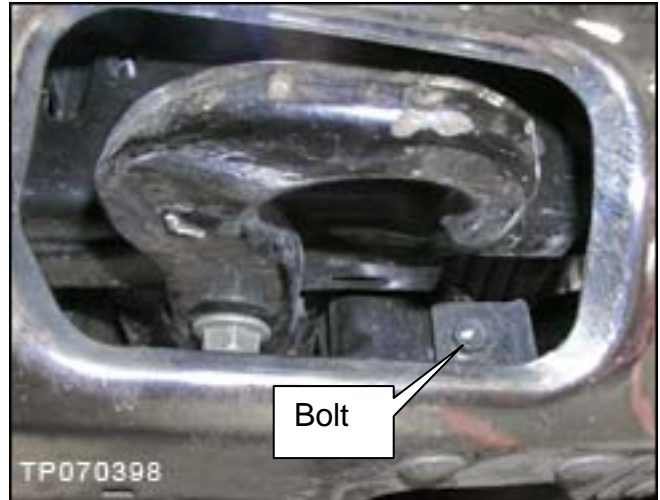

Figure C-19
c. Install and Torque the bumper bolt shown in Figure C-19.